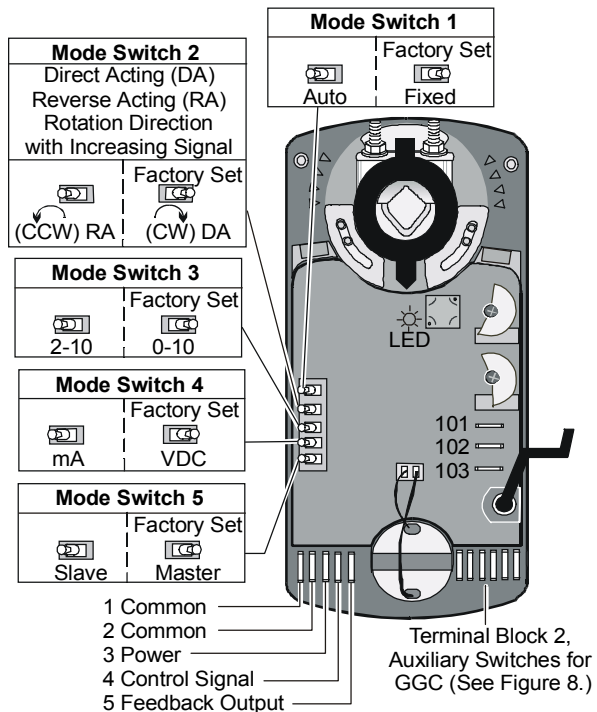

Figure 12: Mode Switch Settings for GGx Models
GGx models are factory set with Mode Switch 5 in the master position. Designate one unit as the master actuator. Refer to Figure 12, and proceed as follows:
3. Connect Terminals 101, 102, and 103 from the master actuator to the corresponding terminals on the slave actuator. (See Figure 12.)
GGx models are factory set with Mode Switch 2 in the DA mode. Move Mode Switch 2 to the RA mode. (See Figure 12.)
The GGx models are factory set with Mode Switch 1 in the fixed position shown in Figure 12, where a 0 to 10 VDC input signal (selected with Mode Switches 3 and 4) corresponds with a 0 to 93° rotation. If the rotation range is reduced, the end-stop is reached with a reduced input signal. For example, if a 0 to 10 VDC input signal is selected and the rotation range is limited to 75°, the end-stop is reached at 8 VDC.
GGx models are factory set with Mode Switch 1 in the fixed position, Mode Switch 2 in the DA position, Mode Switch 3 in the 0 to 10 position, Mode Switch 4 in the VDC position, and Mode Switch 5 in the master position. (See Figure 12.)